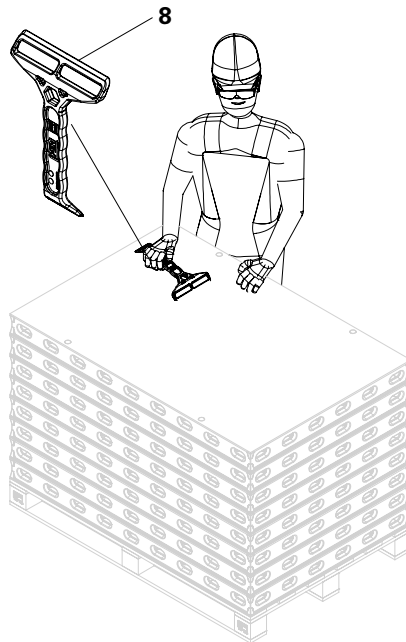
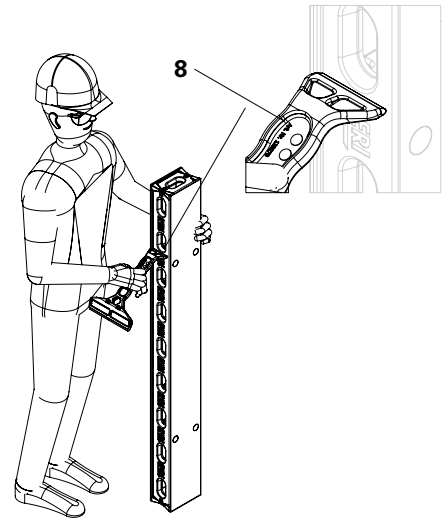
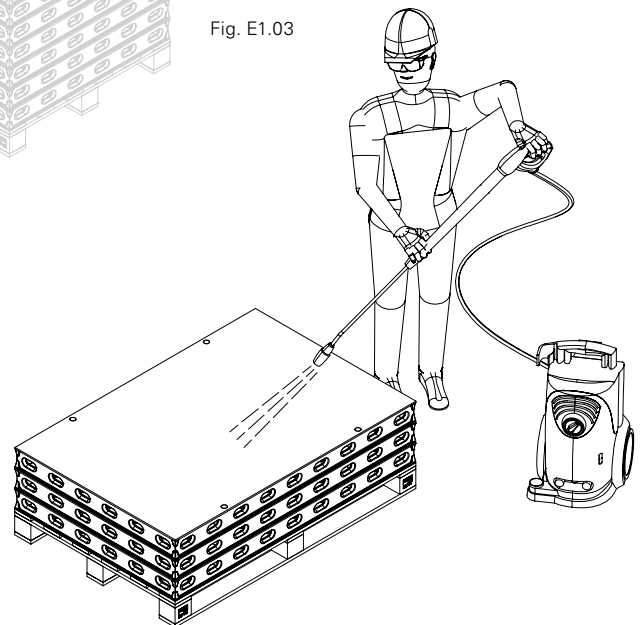

Fig. E1.02
Fig. E1.03
Fig. E1.04
- Directly after striking, clean the panels only with the DUO cleaning device (8) (Fig. E1.02 + Fig. E1.03), a cloth or high pressure cleaner (Fig. E1.04) with water pressure between 100 and 200 bar.